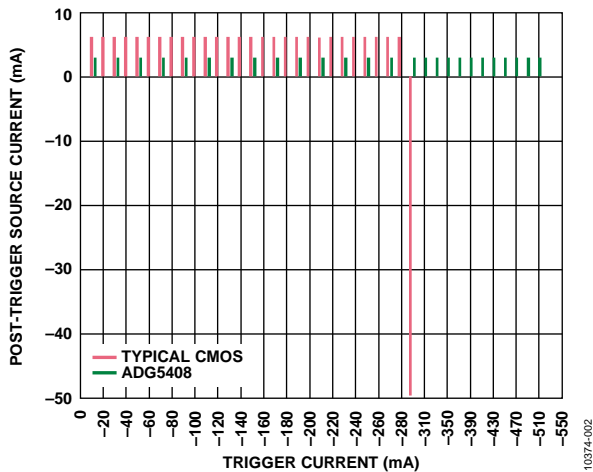
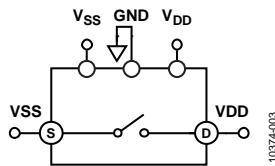

Figure 2. Post Latch-Up Trigger Current Comparison
Figure 3. Latch-Up Test Configuration (Pretrigger) Common Variations
Figure 2 shows the comparison of results between a typical CMOS switch, with epitaxial layer, and the ADG5408 when subjected to a latch-up test. During the test, a stress current is applied to the pin for 1 ms, called the trigger, and the current at the pin is measured after the trigger. This particular test is conducted with the switch set to open, the drain (D) set to VDD, and the source (S) set to VSS, as depicted in Figure 3. The voltage of the source is then driven beyond VSS until the required trigger current is achieved. If latch-up has not occurred, then the current at the pin returns to its pretrigger value. After latch-up has occurred, the pin continues to draw current without being driven by the trigger voltage. This can only be stopped by powering down the part.
From Figure 2, it can be seen that this typical CMOS switch reaches a latch-up current at  $-290$  mA, while the ADG5408 did not latch up until the test ended at  $-510$  mA.